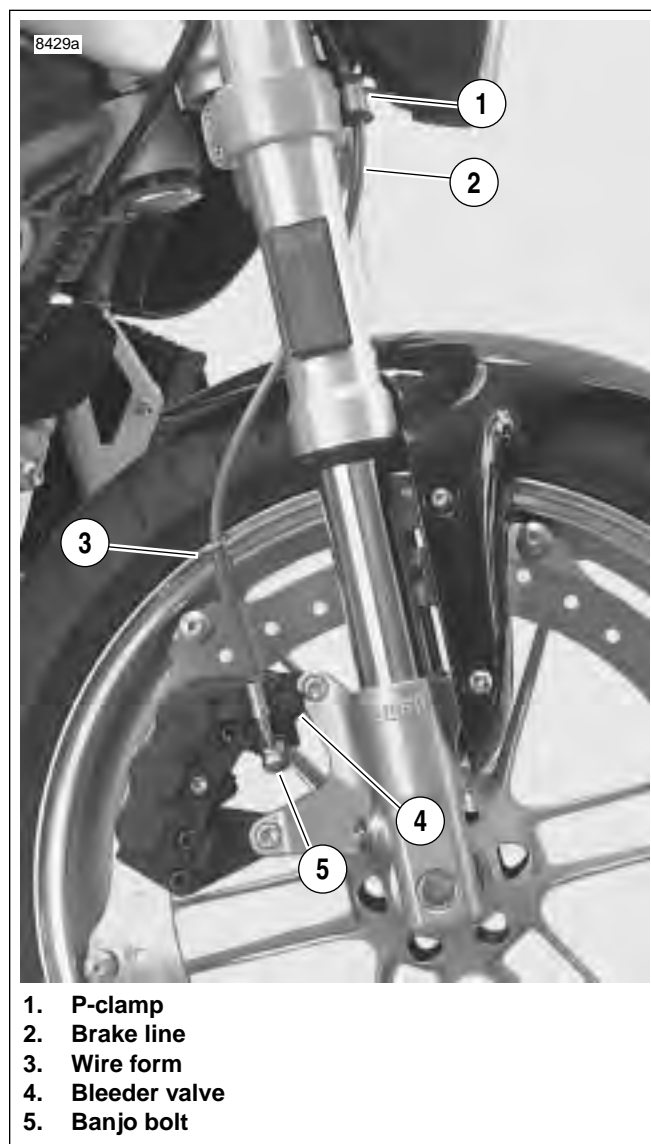

Figure 2-44. Front Brake Line
- a. See Figure 2-44. Install **new** copper washer, brake line (2), **new** copper washer and wire form (3) onto banjo bolt (5).
- b. Finger tighten banjo bolt (5) onto front caliper being careful not to pinch wire form (3) while tightening, wire form should rotate around banjo bolt freely.
- c. Twist brake line (2) into wire form (3) spiral and clock wire form against bleeder valve (4).
5. Install and tighten p-clamp with fastener (1) on lower triple clamp to 36-60 **in-lbs** (4-7 Nm).
7. See Figure 2-44. Tighten brake caliper banjo bolt (5) (metric) to 16-20 ft-lbs (22-27 Nm).